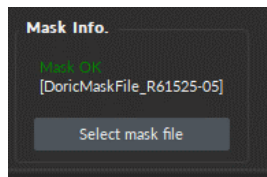

Figure 8.43: Mask correctly added
3. Once the file is selected, the following message will be displayed in the **Mask Info.** box above the **Select Mask File** button: **Loading Masks** and then **Mask OK** (Fig. 8.43). This is replaced by **Masks Loaded** once loading is complete.